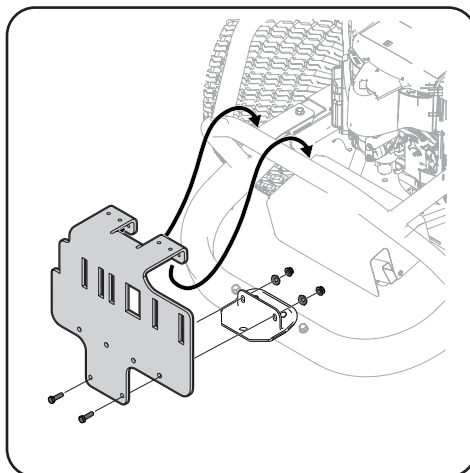

Figure 4-4
4. Hang adapter bracket assembly onto upper frame tube and connect to hitch bracket adapter (789-02298) with two screws (710-0376), two cup washers (736-0242), and two flange lock nuts (710-04063). See Figure 4-4.